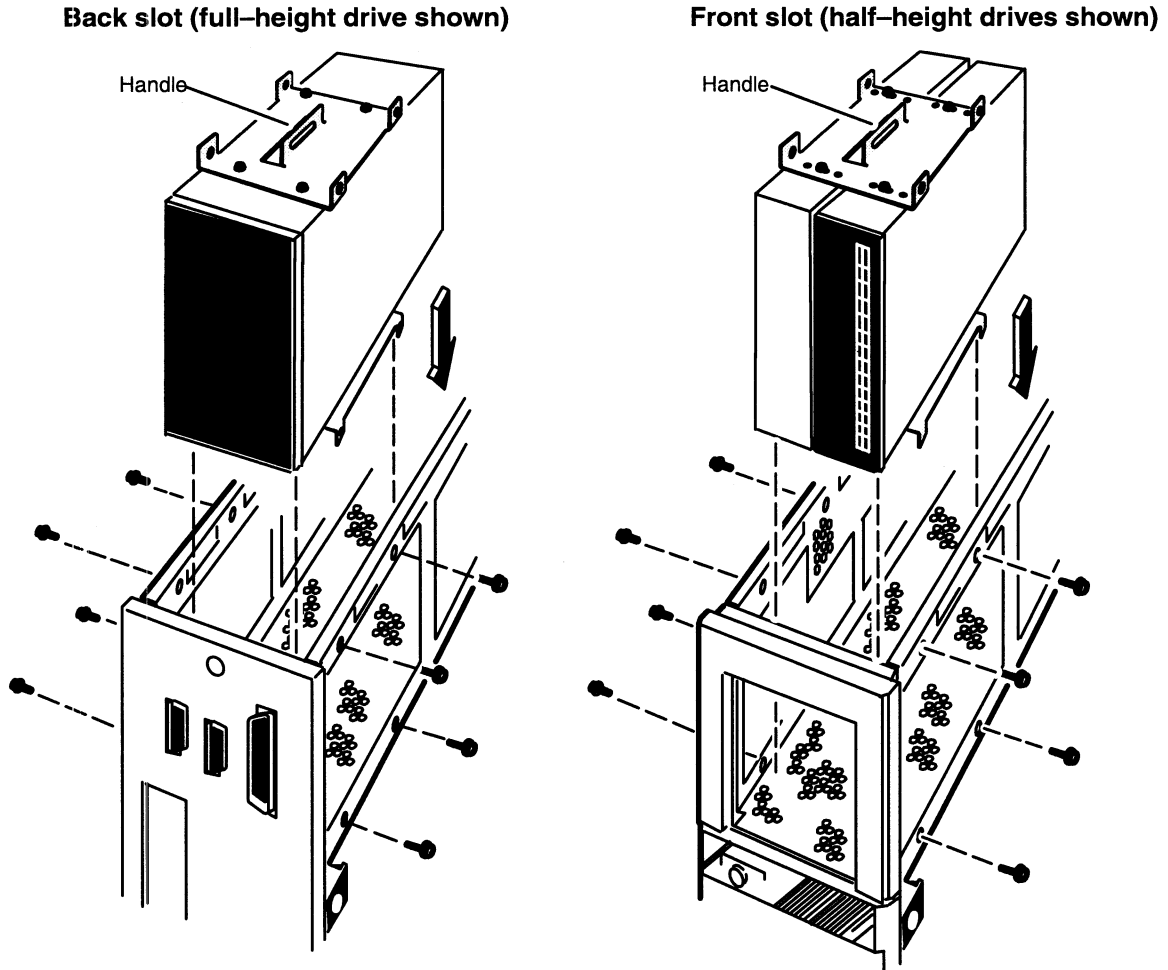

Figure 7-11 Installing a Drive Assembly in the Computer Unit
3. Align the holes on the drive assembly's brackets with the holes in the computer unit frame, and attach the drive assembly to the computer unit with the eight screws and washers as shown in Figure 7-11.